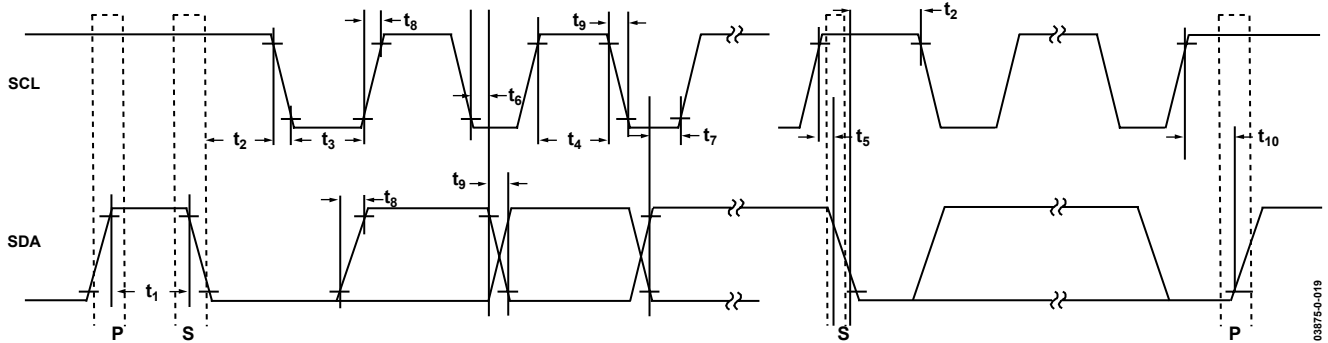
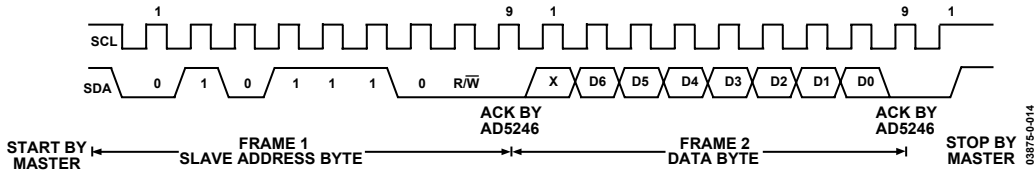
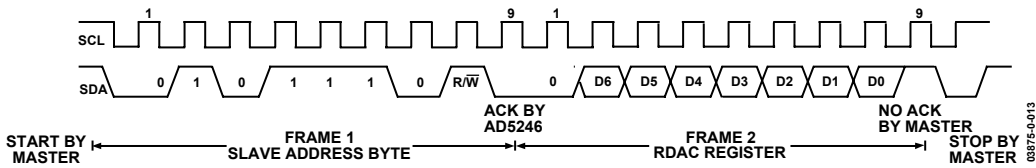

Figure 25. I²C Interface, Detailed Timing Diagram
Figure 26. Writing to the RDAC Register
Figure 27. Reading from the RDAC Register
³ See timing diagrams (Figure 25, Figure 26, Figure 27) for locations of measured values.
1. The master initiates data transfer by establishing a START condition, which is when a high-to-low transition on the SDA line occurs while SCL is high (see Figure 26). The following byte is the slave address byte, which consists of the 7-bit slave address followed by an $\overline{R/W}$ bit (this bit determines whether data will be read from or written to the slave device).
3. In read mode, after acknowledgment of the slave address byte, data is received over the serial bus in sequences of nine clock pulses (a slight difference from the write mode where eight data bits are followed by an acknowledge bit). Similarly, the transitions on the SDA line must occur during the low period of SCL and remain stable during the high period of SCL (see Figure 27).
4. When all data bits have been read or written, a STOP condition is established by the master. A STOP condition is defined as a low-to-high transition on the SDA line while SCL is high. In write mode, the master will pull the SDA line high during the tenth clock pulse to establish a STOP condition (see Figure 26). In read mode, the master will issue a No Acknowledge for the ninth clock pulse (i.e., the SDA line remains high). The master will then bring the SDA line low before the tenth clock pulse, which goes high to establish a STOP condition (see Figure 27).